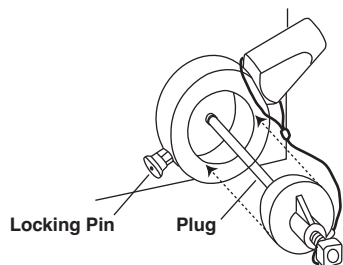

Fig. 3. Using the needle port plug.
4.1 Warning (for 3725(i)-038 and 3725(i) only): Use the needle port plug attached to the handle assembly to shield yourself from mobile phase coming out of the needle port when the valve is turned from INJECT to LOAD (see Figure 3).